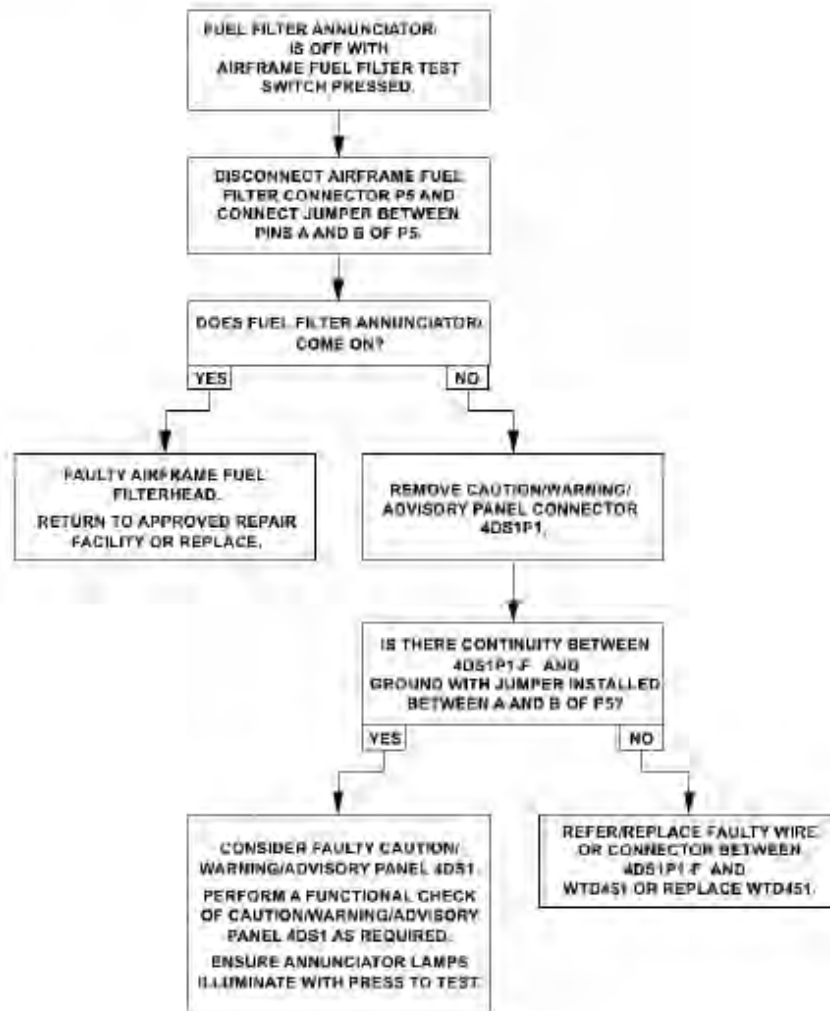

Figure 96-60: A/F FUEL FILTER Annunciator Circuit – Trouble No. 2
- If the FUEL FILTER annunciator does not come on, refer to Trouble No. 2 (Figure 96-60).